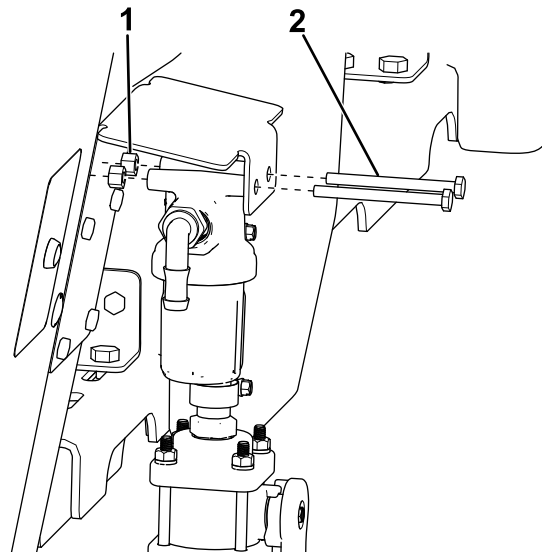

**Figure 36**
- For the Forge spreaders, continue to step 4. For VBX and VBX+ spreaders, line up the filter bracket with the edge of the rear cover and mount it to the hopper with 4 bolts (5/16 inch) as shown in Figure 36.